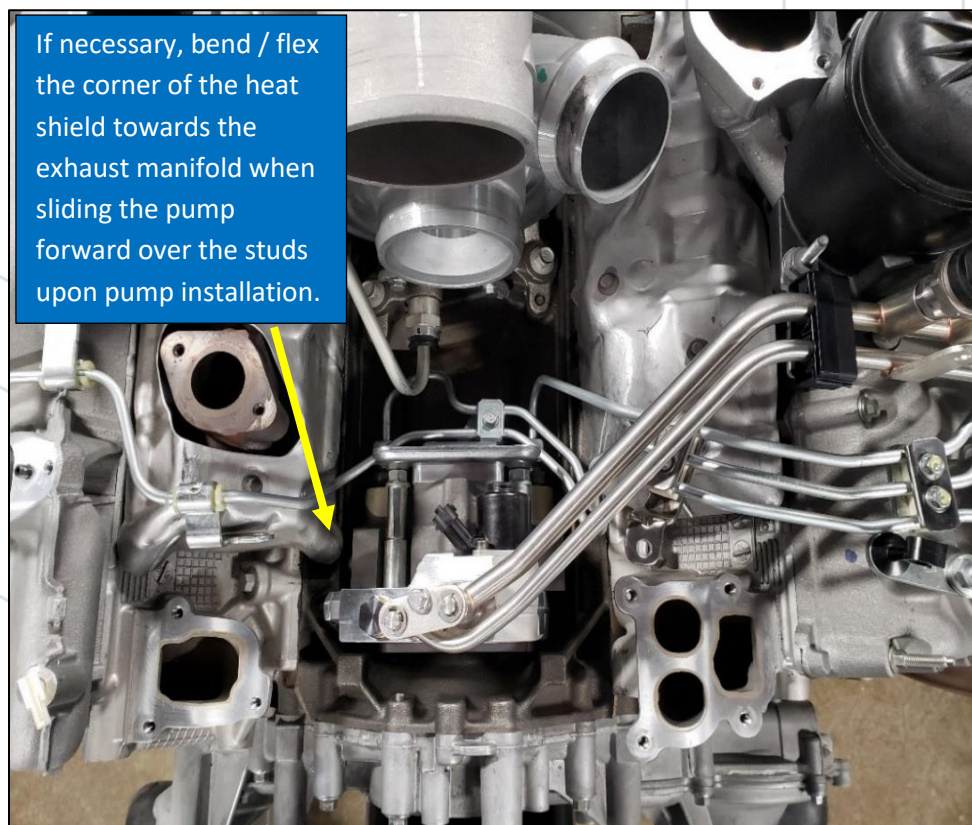

Figure 25: DCR Pump &amp; Lines Installed
- If the pump is contacting the passenger side heat shield, it may be necessary to bend/flex the heat shield towards the exhaust manifold in order to provide clearance (Figure 25).